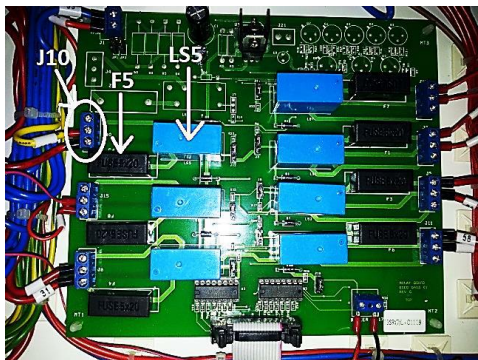
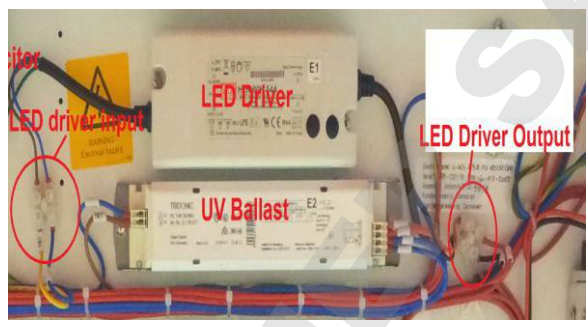

Figure 7-1
Figure 7-2
Defective LED Driver or Relay Board Issues	<ul style="list-style-type: none"> <li>• Check incoming voltage to the Relay board.</li> <li>• Locate LS5 circuit and measure AC voltage between BLUE (NEUTRAL) terminal block and the end terminal (with Red cable) on the three terminal strip (J13 on relay board).</li> <li>• If there is voltage to the end terminal (Terminal with cable), check the central terminal (Normally Open Circuit) to the BLUE (NEUTRAL) terminal block.</li> <li>• No voltage at the central terminal indicates a blown fuse or the circuit is not energized.</li> <li>• Check Fuse F5 on relay board. See Figure 7-1 below.</li> <li>• If fuse F5 is blown, replace F5.</li> <li>• If fuse F5 is good, check the voltage between the BLUE (NEUTRAL) and the BROWN (LIVE) on input terminal terminal, Should be 230V ±10%.</li> <li>• Check output LED driver, should be 230VAC. See Figure 7-2 below.</li> <li>• If the LED driver has power and the light not ON, check LED light input</li> </ul>
- Shift the switch or magnet position so the distance between them is between 10-13mm (3/8 to 1/2”) as explained in Figure 7-2 below. If the distance is too far, the switch may not be able to detect the magnet.
<p>UV magnetic switch is defective or misaligned</p>	<ul style="list-style-type: none"> <li>• Move sash to Fully Closed position. The LCD should show SASH: FULLY CLOSED.</li> <li>• If the LCD display shows “SASH: NO!” the sash is not fully closed.</li> <li>• Check the magnetic switches. There are 3 magnetic switches behind the right sash profile cover. See Figure 7-2 above. The bottom one is for UV Mode position.</li> <li>• There is a magnet attached to the glass to activate the magnetic switch.</li> <li>• Shift the switch or magnet position so the distance between them is between 10-13mm (3/8” to 1/2”) as explained in Figure 7-2 above. If the distance is too far, the switch may not be able to detect the magnet.</li> <li>• If the LCD still showing “SASH: NO” check the connections at Connector D pins D-4 and D-5</li> <li>• To simulate a closed U/V Switch, connect the jumper between Connector D pins D-5 and D-4.</li> <li>• If this does not turn on the UV, return to the first step and repeat the procedures.</li> </ul>